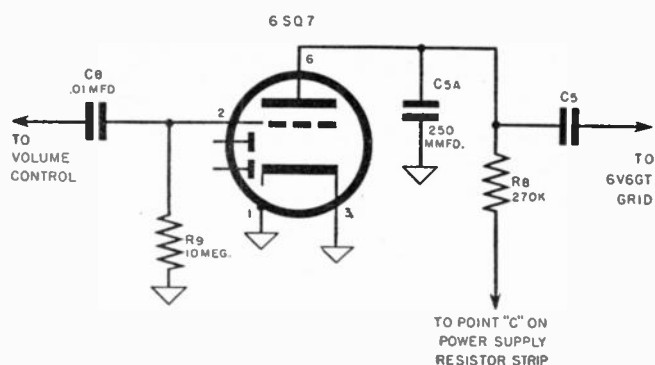

Fig. 2-35. The first A. F. circuit.
d) First A.F. Circuit. See Figure 2-35. No special comments are needed here.